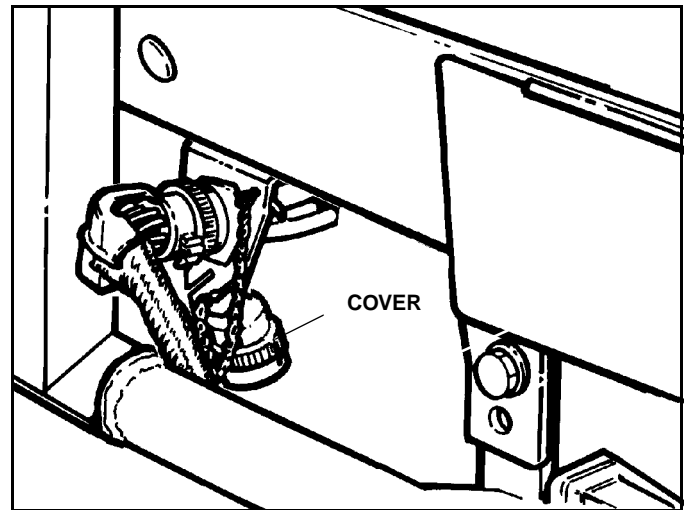

Figure 2-6
10. Align the two harness connector halves, push the plow end connector onto the vehicle connector and rotate clockwise to lock. (See Figure 2-6)